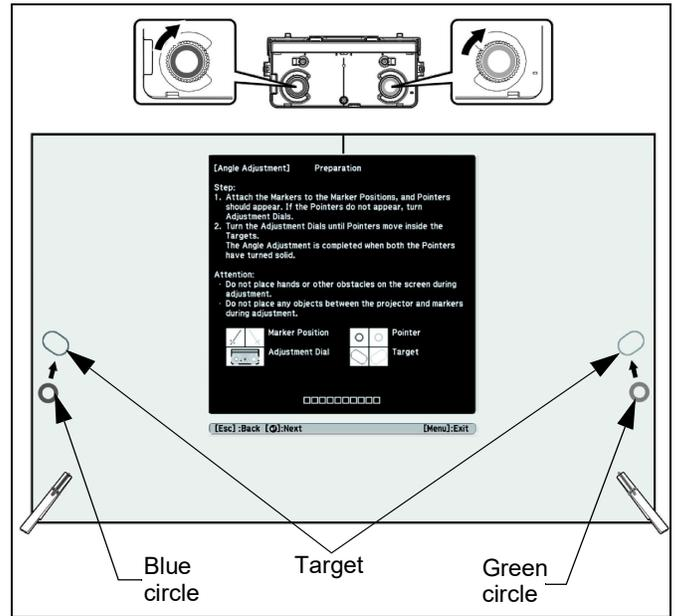

Figure 41
- When circles with the same color (blue or green) as the marker positions are displayed on the left and right of the screen, turn the adjustment dials on the touch sensor to move the blue and green circles inside the target of the same color (blue and green) on either side of the screen. (See Figure 41).
**NOTE:** Turning an adjustment dial **clockwise** moves the circle diagonally **up** towards the center of the projected image. (See Figure 41)